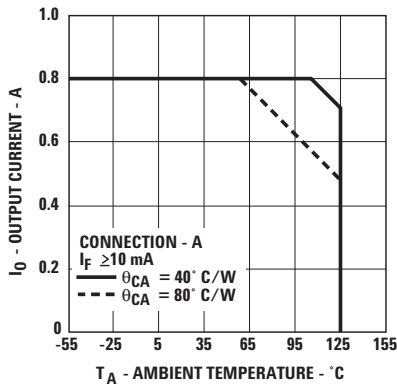
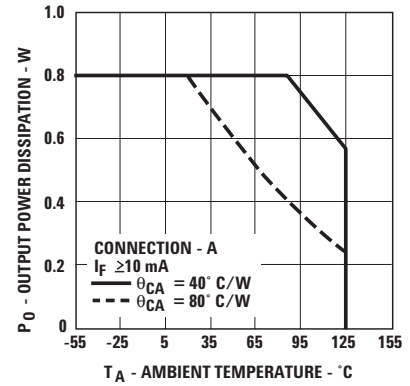

Figure 2. Maximum Average Output Current Rating vs. Ambient Temperature.
Figure 4. Output Power Rating vs. Ambient Temperature.
- For rating, see Figure 4. The output power P_O rating curve is obtained when the part is handling the maximum average output current I_O as shown in Figure 2.
IN ORDER TO DETERMINE V_{OUT} CORRECTLY, THE CASE TO AMBIENT THERMAL IMPEDANCE MUST BE MEASURED FOR THE BURN-IN BOARDS TO BE USED. THEN, KNOWING θ_{CA} , DETERMINE THE CORRECT OUTPUT CURRENT PER FIGURES 2 AND 4 TO INSURE THAT THE DEVICE MEETS THE DERATING REQUIREMENTS AS SHOWN.
The output on-resistance, R_{ON} , specified in this data sheet, is the resistance measured across the output contact when a pulsed current signal ($I_O = 800 \text{ mA}$) is applied to the output pins. The use of a pulsed signal ($\leq 30 \text{ ms}$) implies that each junction temperature is equal to the ambient and case temperatures. The steady-state resistance, R_{SS} , on the other hand, is the value of the resistance measured across the output contact when a DC current signal is applied to the output pins for a duration sufficient to reach thermal equilibrium. R_{SS} includes the effects of the temperature rise of each element in the thermal model. Rating curves are shown in Figures 2 and 4. Figure 2 specifies the maximum average output current allowable for a given ambient temperature. Figure 4 specifies the output power dissipation allowable for a given ambient temperature. Above 55°C (for $\theta_{CA} = 80^{\circ}\text{C}/\text{W}$) and 107°C (for $\theta_{CA} = 40^{\circ}\text{C}/\text{W}$), the maximum allowable output current and power dissipation are related by the expression $R_{SS} = P_{O(\max)}/(I_{O(\max)})^2$ from which R_{SS} can be calculated. Staying within the safe area assures that the steady-state junction temperatures remain less than 150°C . As an example, for $T_A = 95^{\circ}\text{C}$ and $\theta_{CA} = 80^{\circ}\text{C}/\text{W}$, Figure 2 shows that the output current should be limited to less than 610 mA . A check with Figure 4 shows that the output power dissipation at $T_A = 95^{\circ}\text{C}$ and $I_O = 610 \text{ mA}$, will be limited to less than 0.35 W . This yields an R_{SS} of 0.94Ω .